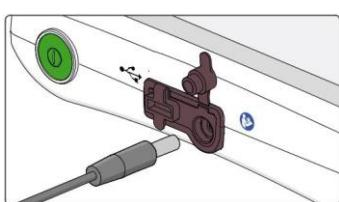

Figure 39. DC input
1. Connect the AC/DC adapter cable to the DC input connector on the device, see Figure 39. Make sure that the plug is properly inserted.